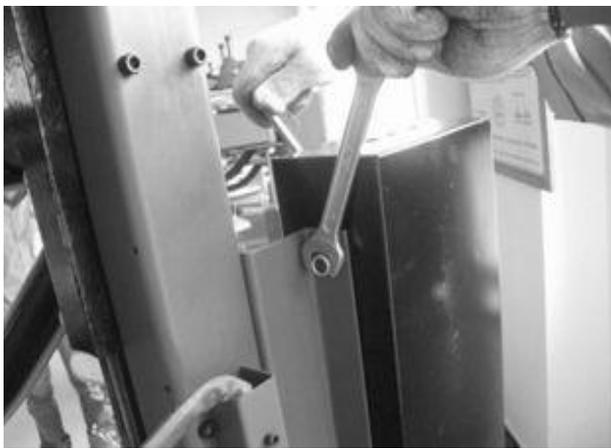

Fig 7-8
7.1.8 According to the fig7-8, fix the fix bracket on the body and fix the tool box on the fix bracket and then use the lock nut to tight.